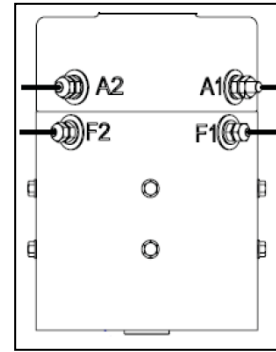

Figure 9-1
1. Mark traction motor cables (if not already marked), with motor terminal identification Figure 9-1.